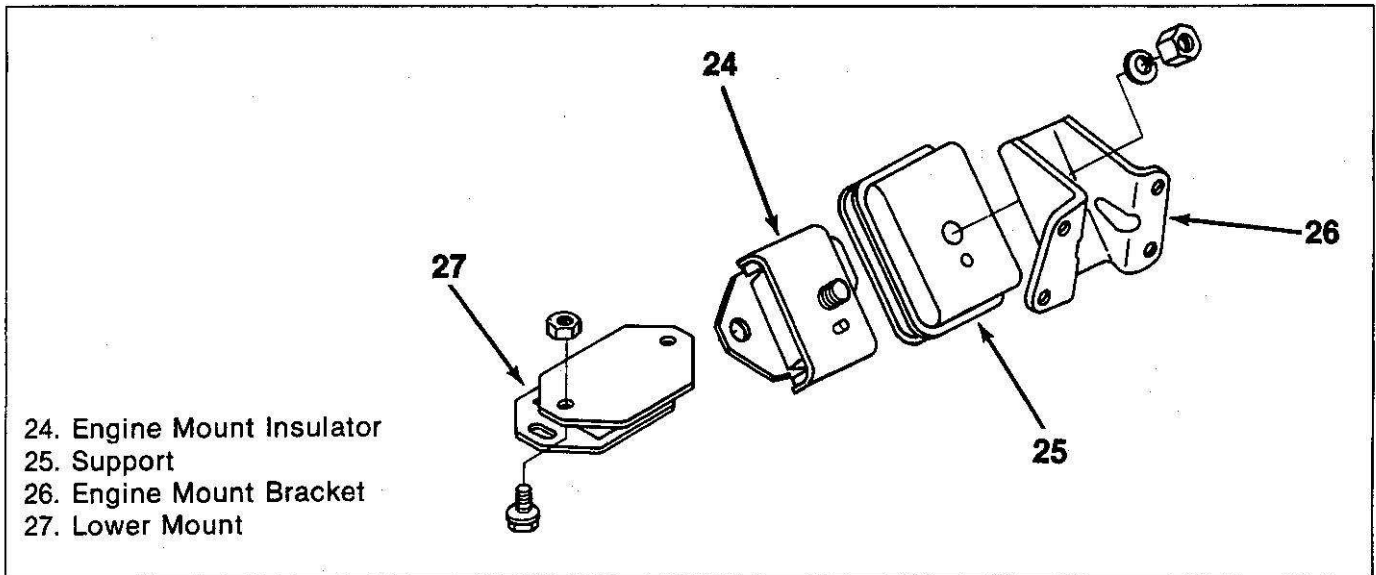

Figure 11. Front Engine Mount
- 30. Engine mount insulator (24) to engine mount bracket nuts (figure 11).
7. Engine mount insulator (29) to the engine mount bracket (31) (figure 11).
Engine mountings are illustrated in figures 11 and 12.
Remove or Disconnect (Figure 11)
Install or Connect (Figure 11)